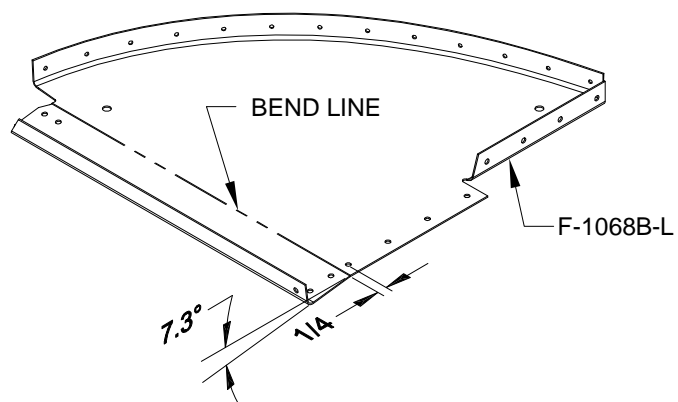

FIGURE 2: BEND SUB PANEL SIDE
Step 2: Using the edge of a table or other straight edge, bend the lower portions of the F-1068B-L and F-1068B-R Sub Panel Sides as shown in Figure 2.